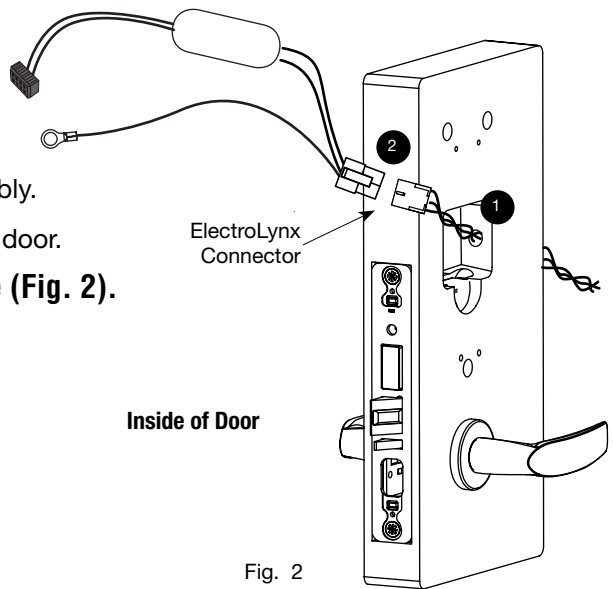

Fig. 2
2. Connect auxiliary power cable to 8-pin ElectroLynx cable (Fig. 2).